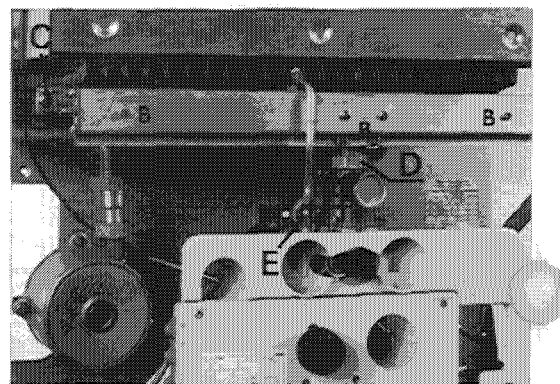

Fig. 21
#### 7.2.1 To clean the burner (fig. 21)
- Remove pilot clamp screw (A fig. 21)
- Carefully unscrew the nut retaining the pilot injector (E fig. 21) taking care not to lose the injector which is in the form of a small washer using a 8 mm or adjustable spanner. Clean the injector by blowing also clean pilot filter.